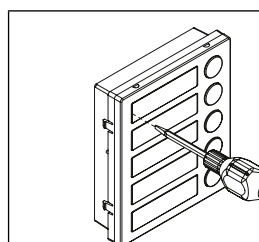

Fig. 5
- Insert the screwdriver (flat side) into the card-holder hole as shown in Fig. 5;